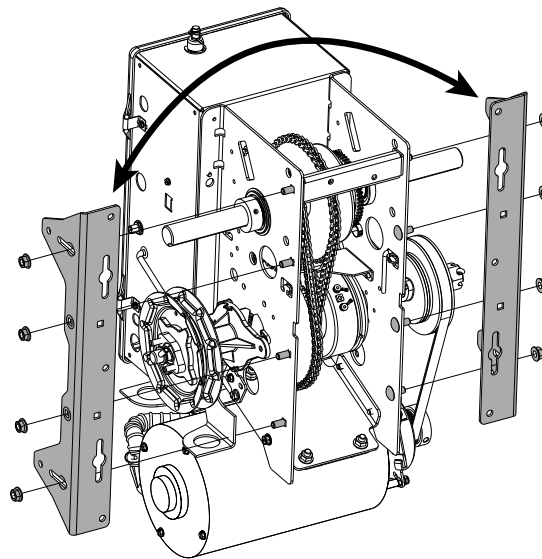

Figure 22
- Remove 8 nuts (4 each side) and exchange sides of the mounting brackets and reinstall with mounting pads inboard. See Figure 22